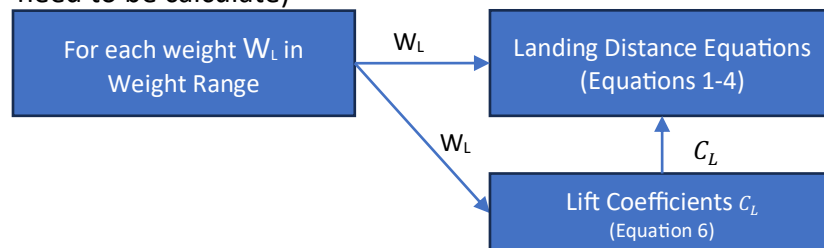

Figure 4. Components supporting Q4c
- Use the landing distance equations (Equations 1-4); see Figure 4 (which doesn't include terms that are constant through the process and don't need to be calculate)